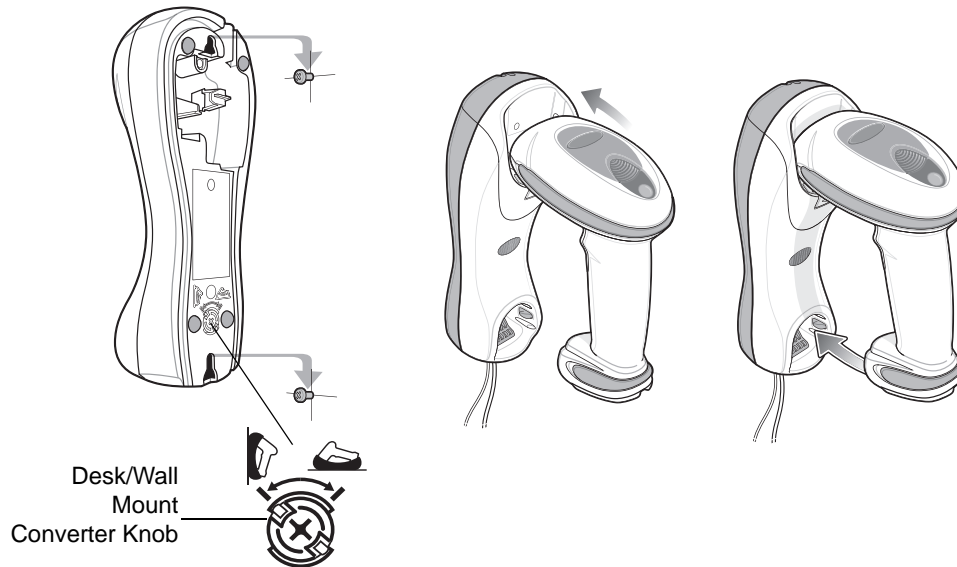

Figure 1-11 Vertical Mount - Inserting the Digital Scanner in the Cradle
3. Ensure the desk/wall mount converter knob is in the position shown in *Figure 1-11*.